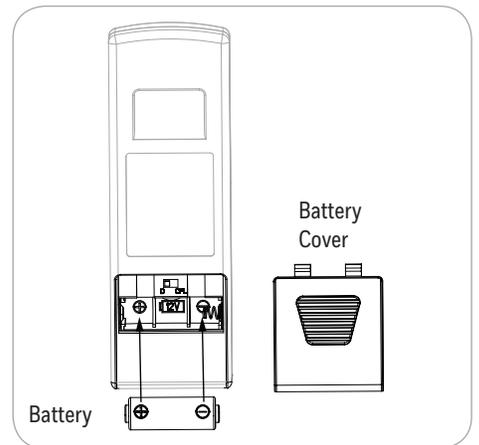

Figure 5.9
- Remove the battery cover from the back of the remote and insert the 12-volt battery, noting polarity -- positive (+) to positive (+) and negative (-) to negative (-). Replace the battery cover. If battery is installed correctly, the LED indicator on the front of the remote transmitter should illuminate when any button is pushed (Figure 5.9).